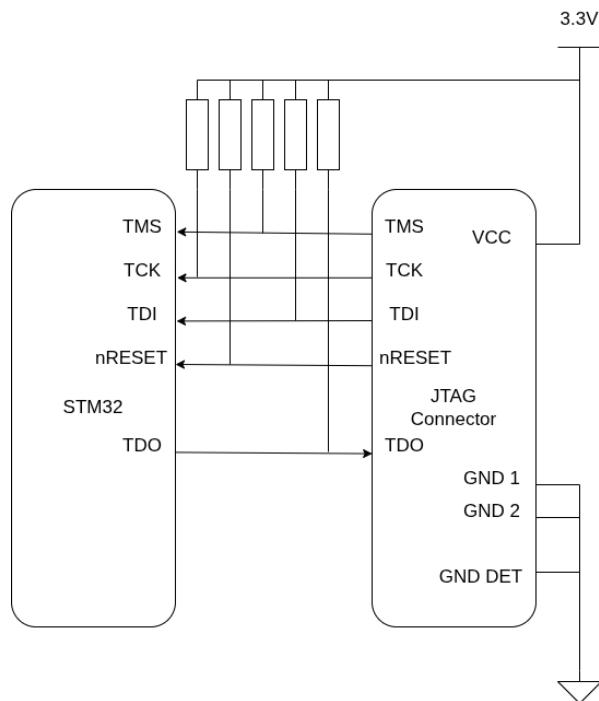

Figure 4.8: Interfacing diagram of JTAG with STM32H745ZI.
**Important** In figure 4.8 the pull-ups to TCK and nRESET are  $47\text{k}\Omega$ . And the rest of the pull-ups are  $100\text{k}\Omega$ .
**Note** In figure 4.8, you can add a series  $33\Omega$  resistor on TDO line, close to the processor for impedance matching as mentioned in the specification of JTAG.